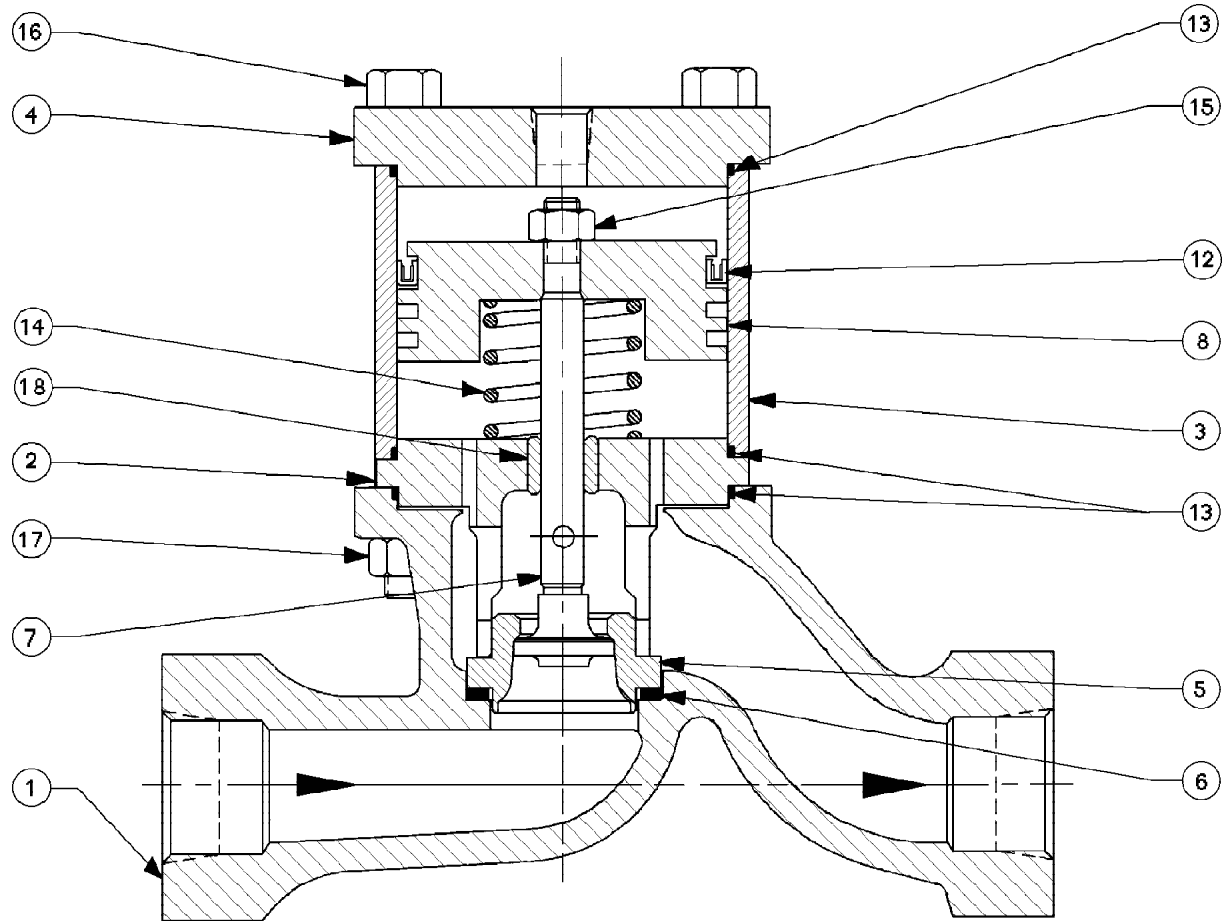

FIGURE 6
- Subject of Addendum:** To modify Maintenance Instructions for Main Valve concerning new (1) piece piston (8)
- Replaces:** Disregard maintenance instructions concerning retainer (11) in Section VI.D, Articles 15, 16, 17 & 43 as retainer is now machined integral to piston (8). Use following text to remove and replace piston seal (12). Also note changes in drawings for Figure 3 and Figure 6.